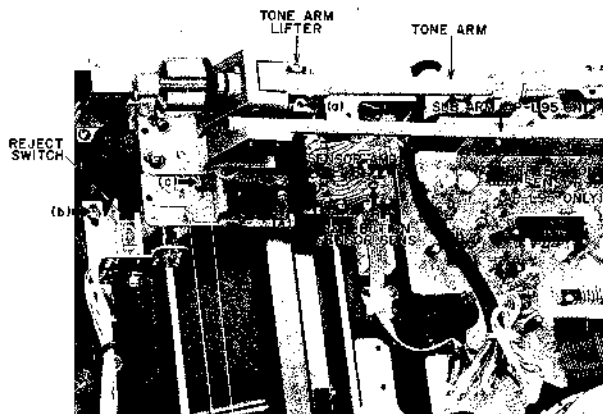

Fig. 20
1. TONE ARM LIFTER HEIGHT ADJUSTMENT (Refer to Fig. 20)
(Refer to Figs. 20, 23, 24)
- 4) If the stylus lowers at a point too far out or in, loosen the screw (b) (Fig. 20), and adjust by changing the position of the REJECT switch. (The stylus' lowering position will change inward if the REJECT switch is moved to the front, or outward if the switch is moved to the rear).
ADJUSTMENT (Refer to Figs. 20, 22)
- 4) Short Pin (1) and Pin (3) of Syscon P.C. Board P6.
- 5) Connect Pin (1) of P6 to the digital voltmeter's (-) and Pin (2) to its (+).
- 7) Adjust the screw (c) (Fig. 20) until the digital voltmeter reads $-0.25 \pm 0.55V$ DC.
(AP-L95/C) (Refer to Figs. 20, 26)
- 8) Adjust VR1 (Fig. 20 Sensor Amp P.C. Board) so that the digital voltmeter reads $-1.0 \pm 0.2V$ DC at this time.
7. REFLECTION SENSOR POSITION ADJUSTMENT (AP-L95/C) (Refer to Fig. 20)
- 5) If the stylus fails to go down in the interval center, loosen the screw (d) (Fig. 20), and adjust by turning CAM (e).